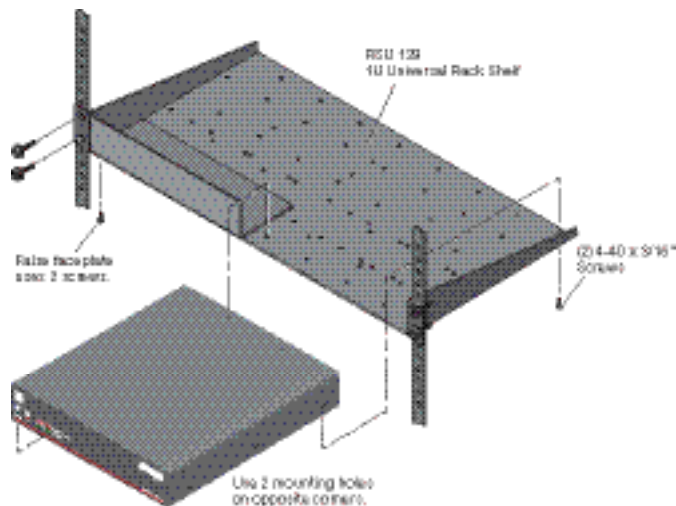

Figure 4. Mounting the Amplifier onto a Rack Shelf
6. Attach the rack to the shelf by using the four 10-32 x 3/4" screws provided with the shelf. Insert the screws through #10 beveled washers, then through the holes in the rack (see figure 4).